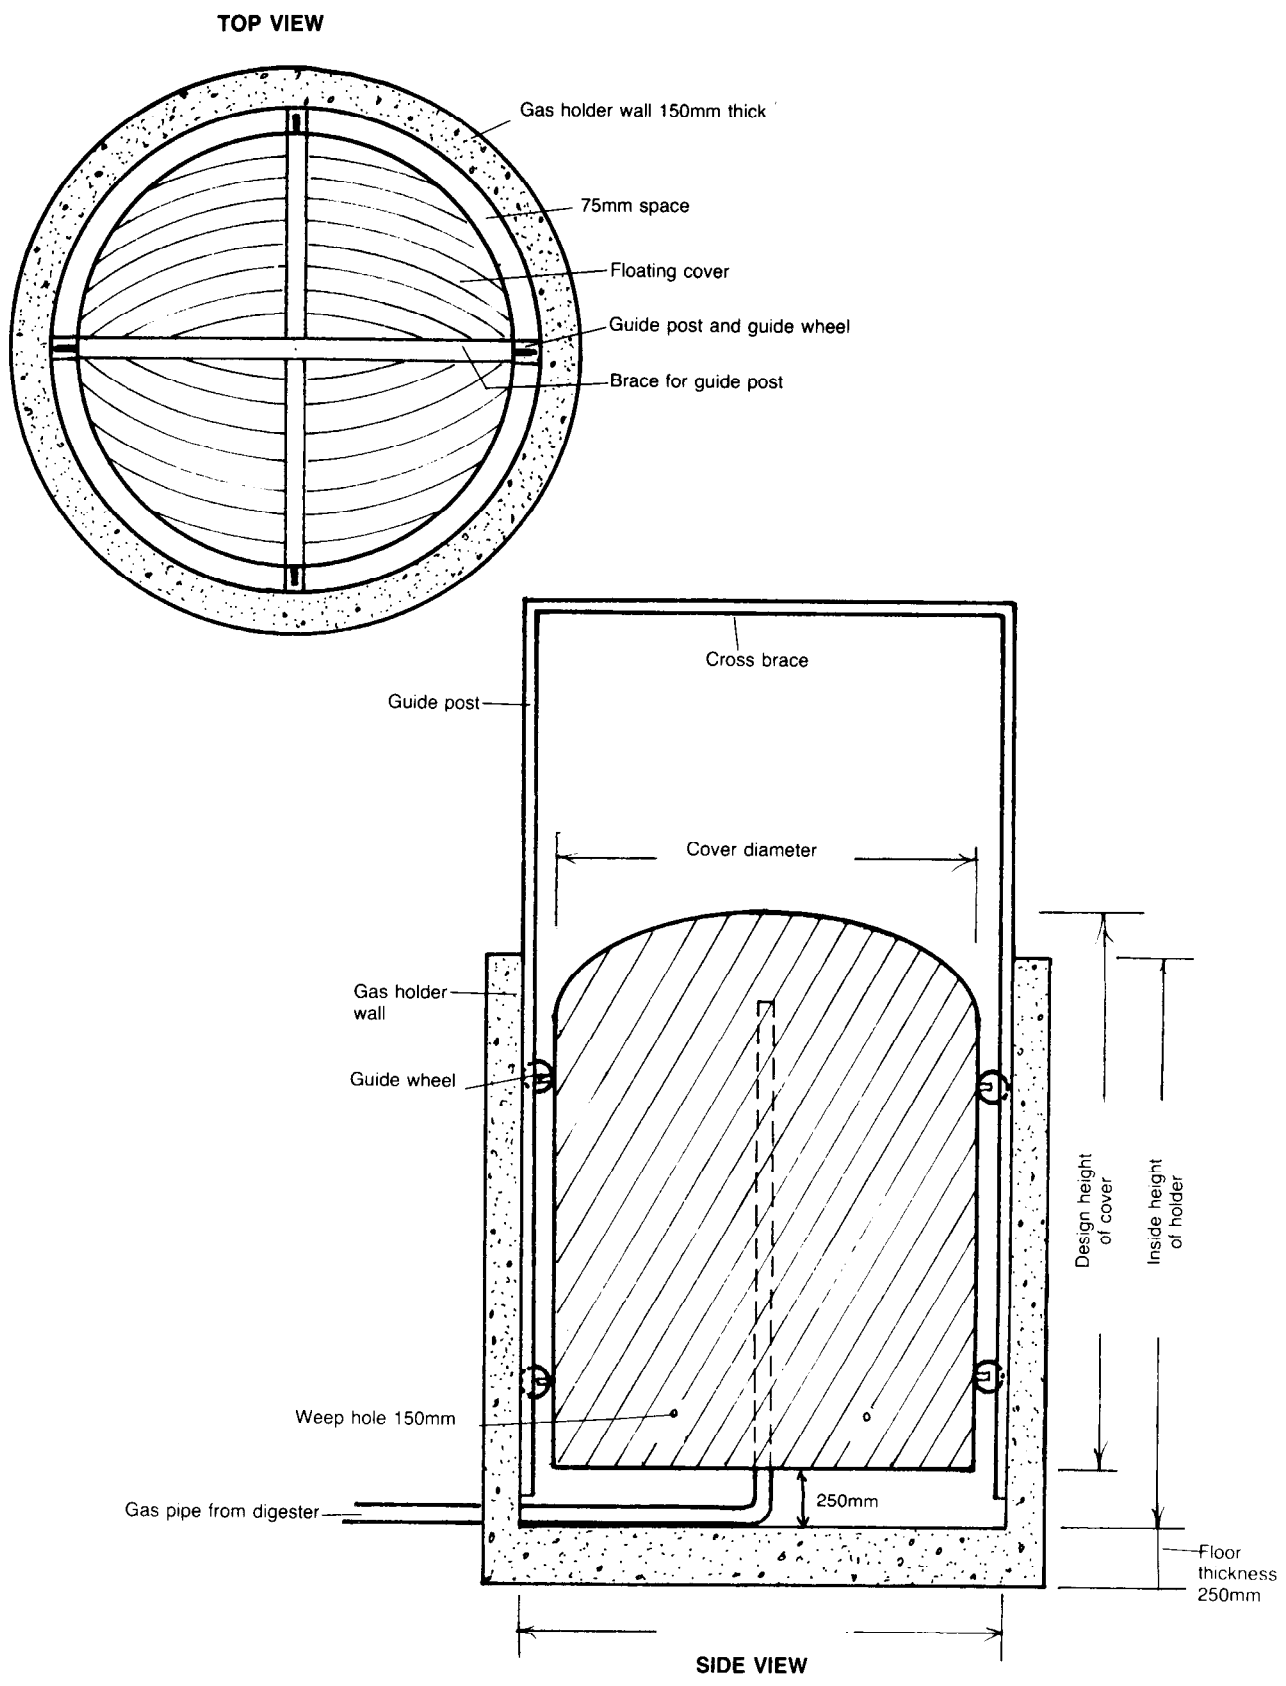

Figure 2. Design of Gas Holder
- 2) Design drawings similar to Figures 2 and 3,